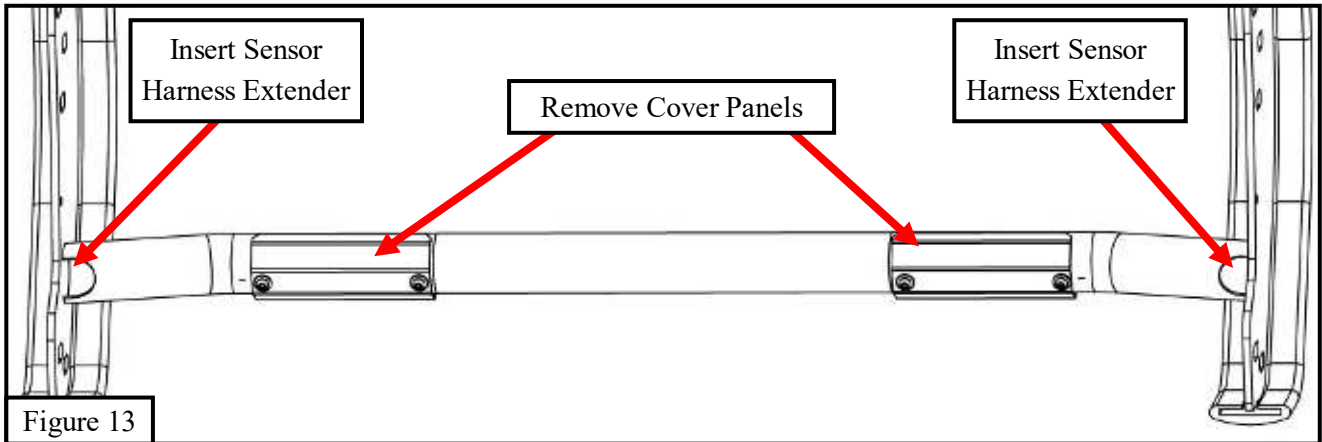
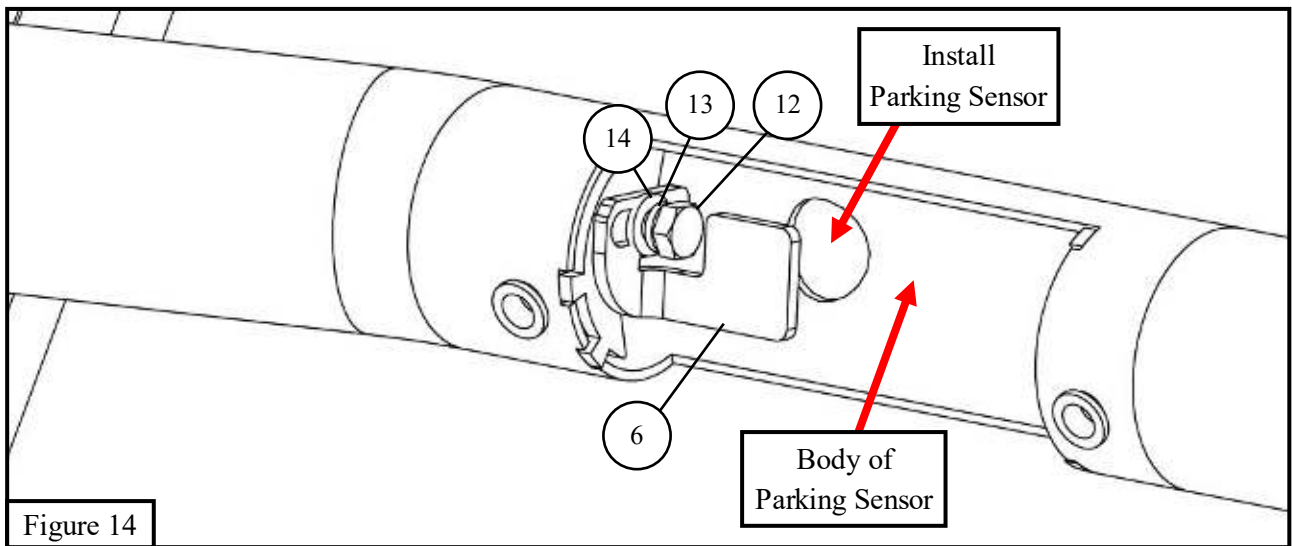

Figure 13
Figure 14
23. Remove the (2) center parking sensors from the front bumper.
24. Remove the cover panels and rubber hole plugs from the grille guard lower tube. See **Figure 13**.
25. Insert (1) sensor harness extender (**item 5**) into the lower grille guard tube. Place one end of the harness extender in the space behind the cover panel. See **Figure 13**.
26. Place (1) piece of double sided tape (**item 19**) on the back of each parking sensor.
27. Install the parking sensors using the M6 hardware (**items 12-14**) and the sensor L-brackets (**items 6-7**). See **Figure 14**.